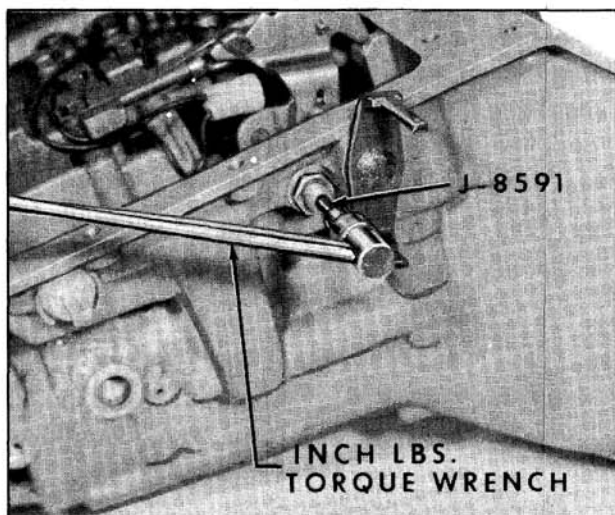

Fig. 6-517 Low Band Adjustment
1. Adjust low band by first tightening adjusting screw to 40 in. lbs. torque. (Fig. 6-517)